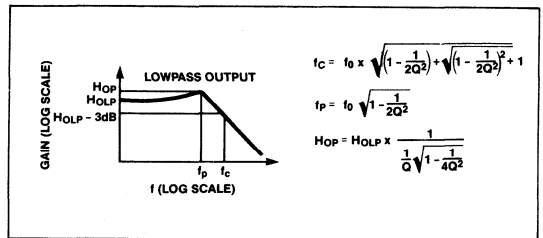

Figure 2. Lowpass Filter Terminology
- H_{OLP}**: The gain in V/V of the lowpass output as f→0Hz. See Figure 2.